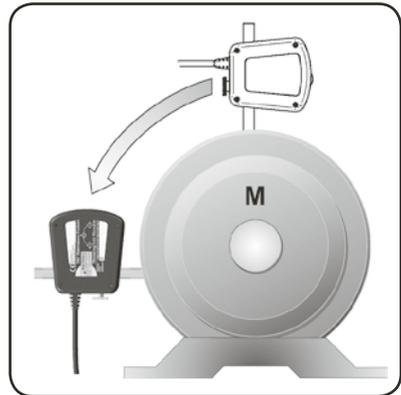

Fig. 17. Adjust to the 9 o'clock position
- a) Adjust the measuring units to the 9 o'clock position with the aid of the spirit levels (fig. 17).